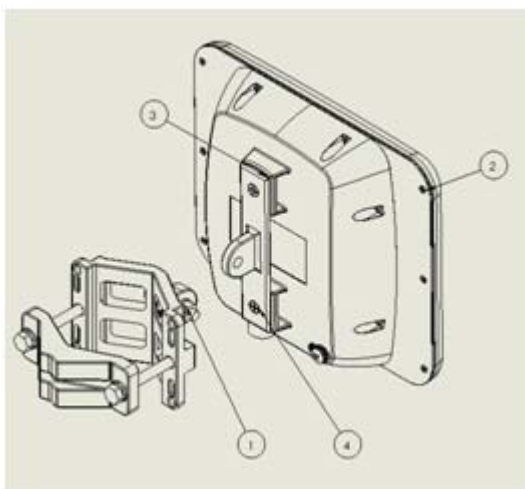

Figure 4-32: Attaching a standard mounting kit
2. Referring to Figure 4-32 below: Attach the ODU mounting kit (1) to the mounting adapter ear (4) and proceed as above, for a standard ODU.